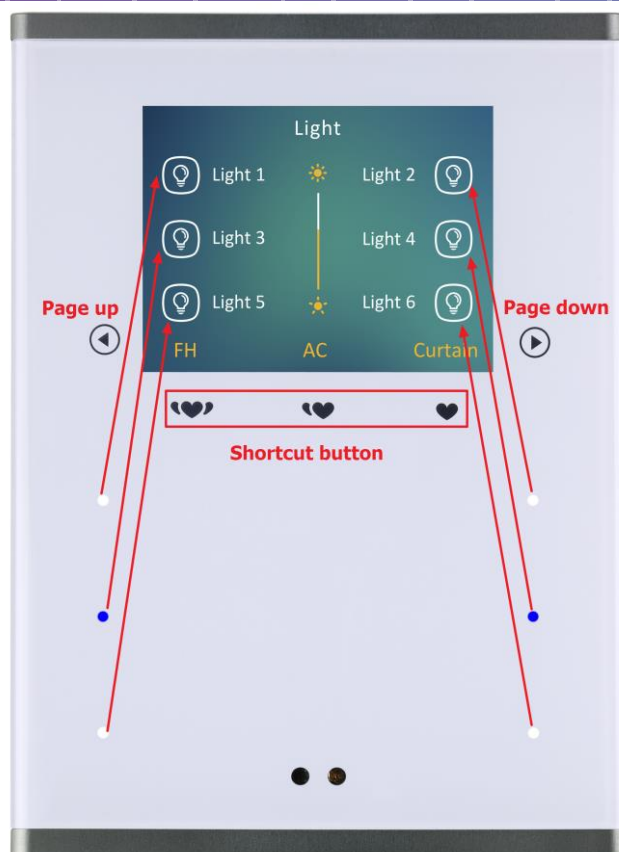

Figure 1-1 Panel button introduction
- ① Please refer to the datasheet attached to the product for the information of installation, wiring, specifications, etc.
- ② The pictures in this user manual are for reference only and the actual product should prevail.
- ③ Panel button introduction is as shown in Figure 1-1 (The six buttons under the panel respectively correspond to the six icons of each button page).